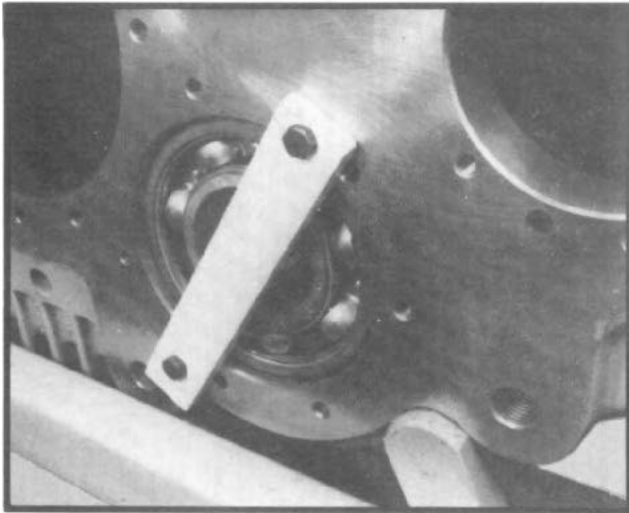

Fig. 83
5. Install special tool over the rear bearing and bolt to housing. (See Tool Reference, Section X and fig. 83.)